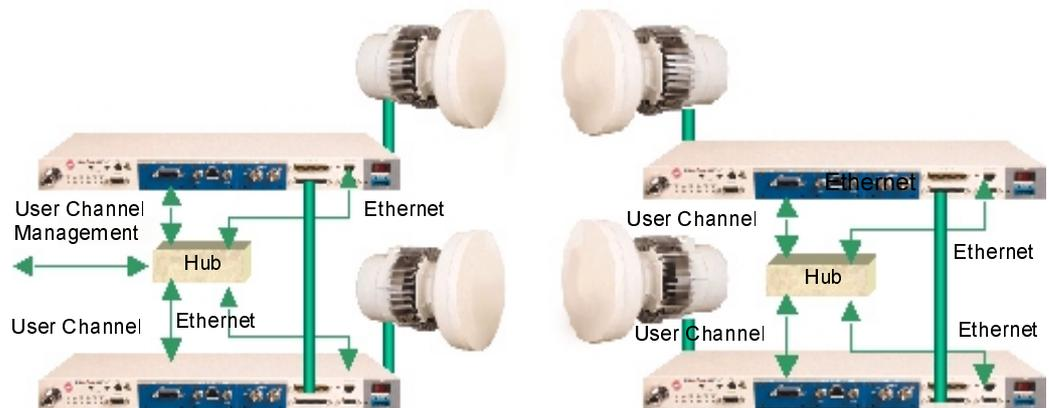

Figure 7-4 Single Side Management
8. Connect management interface to each one of the IDU’s. If Ethernet port is used, a small “hub” is required to connect the two IDU’s. If the remote side is managed via the user channel of the radio link (as described in figure 7-4), connect both User Channel and Ethernet ports on both sides of the link to respective hub. One of the hubs will be connected to a PC/LAN to provide management access.